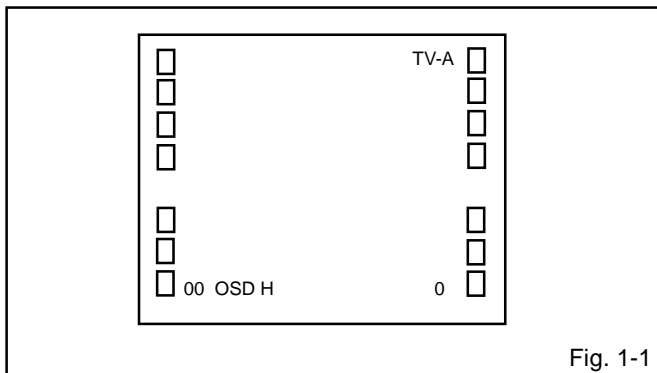

Fig. 1-1
1. In the condition of NO indication on the screen. Press the UP/ DOWN button on the set and the Channel button **(9)** on the remote control for more than 2 seconds to appear the adjustment mode on the screen as shown in **Fig. 1-1**.
4. Activate the adjustment mode display of Fig. 1-1 and press the channel button **(02)** on the remote control to select "CUT OFF".
4. Activate the adjustment mode display of **Fig. 1-1** and press the channel button **(11)** on the remote control to select "R.BIAS".
3. Activate the adjustment mode display of **Fig. 1-1** and press the channel button **(17)** on the remote control to select "BRI CENT".
3. Activate the adjustment mode display of **Fig. 1-1** and press the channel button **(21)** on the remote control to select "CONT.MAX".
4. Activate the adjustment mode display of **Fig. 1-1** and press the channel button **(26)** on the remote control to select "TINT".
4. Activate the adjustment mode display of **Fig. 1-1** and press the channel button **(23)** on the remote control to select "COL.CENT".